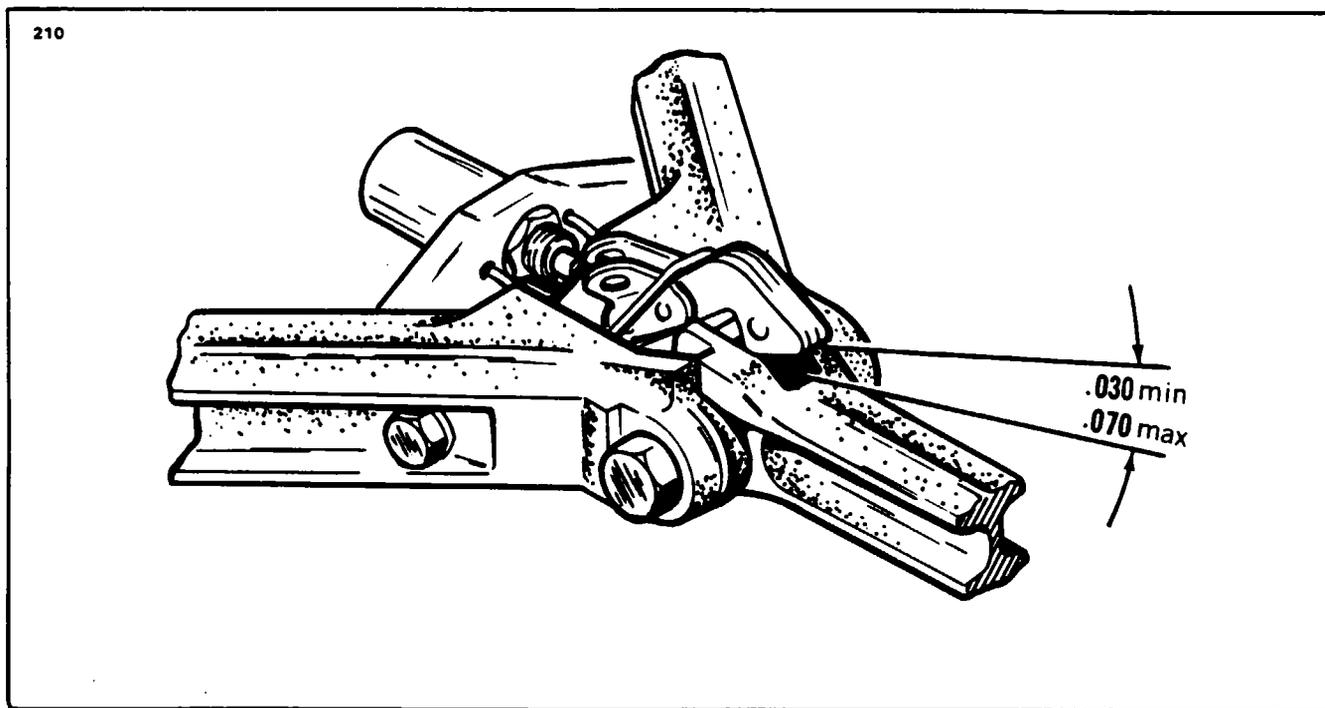

Figure 32-24. Adjusting Main Gear Down Light Switch
#### **ADJUSTMENT OF MAIN GEAR DOWN LIMIT SWITCH. (Refer to Figure 32-24.)**
- B. With hook raised, place a .070 of an inch wire feeler gauge between the hook and bottom surface of the slot in the side brace link. (Refer to Figure 32-24.)